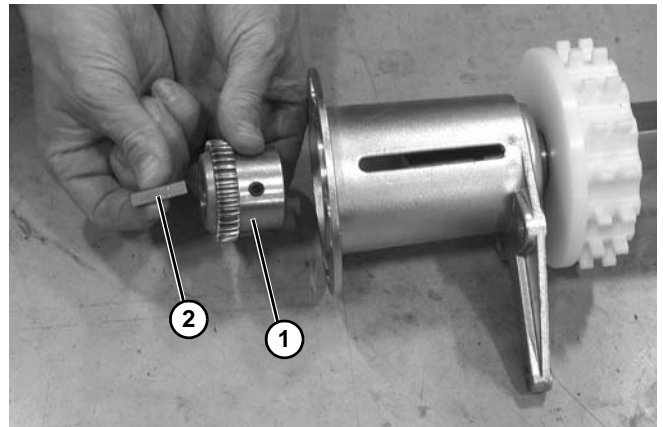

Figure 63
9. Remove drive gear (Figure 63, item 1) and key (Figure 63, item 2) from the drive spindle shaft.